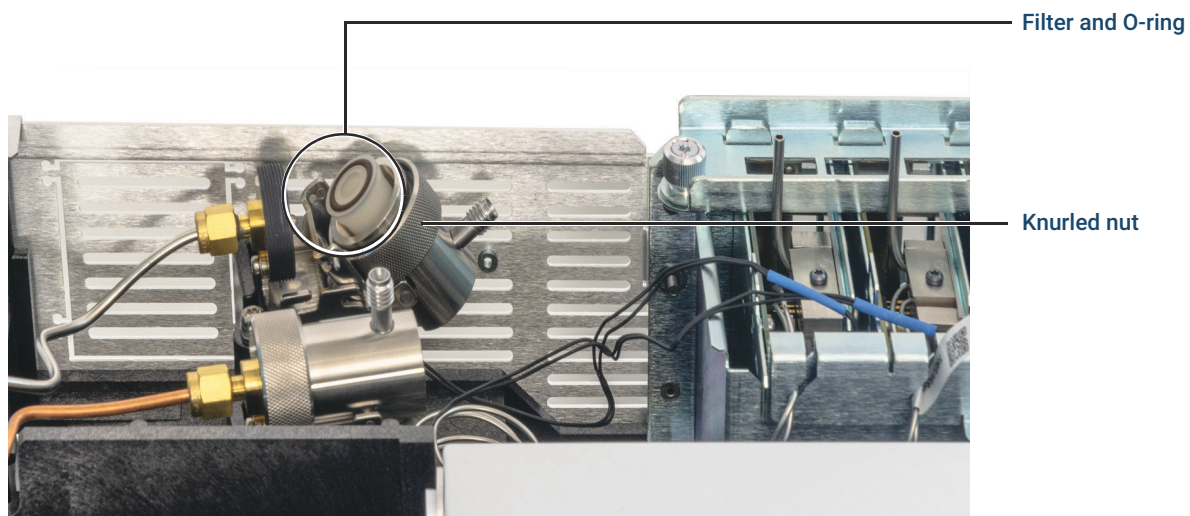

Figure 41. Slide trap assembly to expose the filter
5. Slide the trap assembly back from the guided mounting bracket and tilt up to expose the filter as shown in Figure 41.